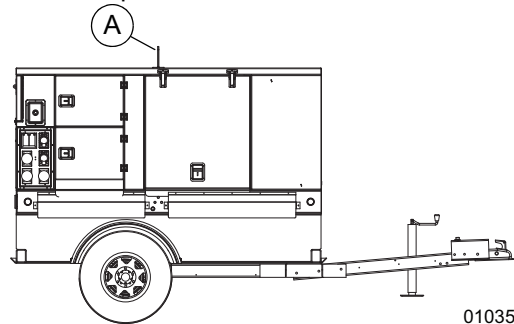

Figure 3-12. Lifting Points
3. See Figure 3-12 for location of the central lift point (A).